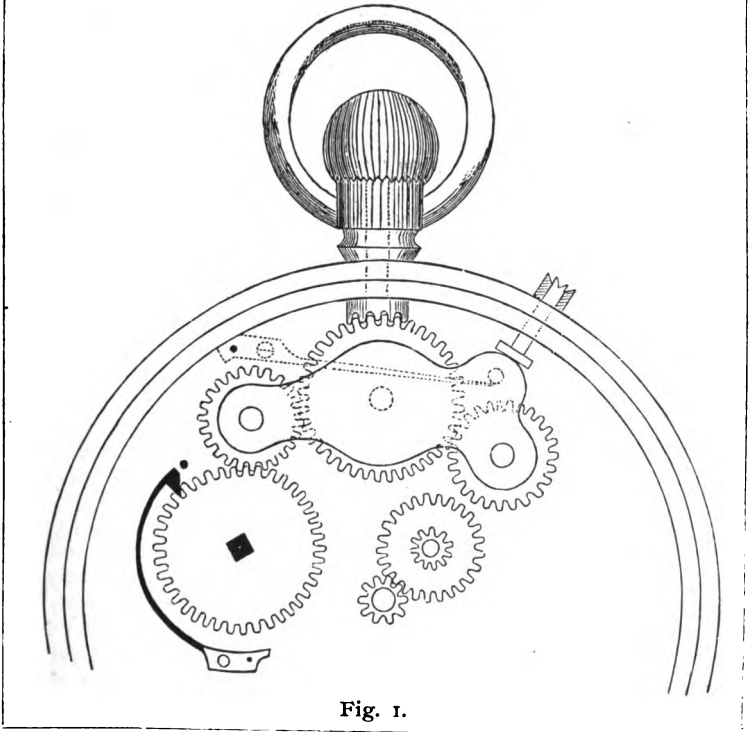

Fig. 1.
**Rocking Bar Keyless Mechanism.**—The action of the keyless mechanism most generally adopted in English going-barrel watches will be understood from Fig. 1. For winding the watch,